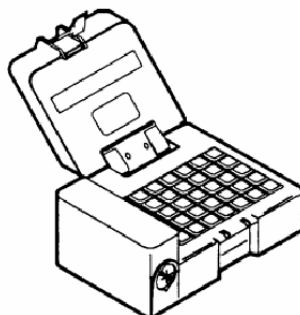

Figure 1-1. ANCD Front View
- b. The front view contains: keypad. CIK port and display. See Figure 1-1.